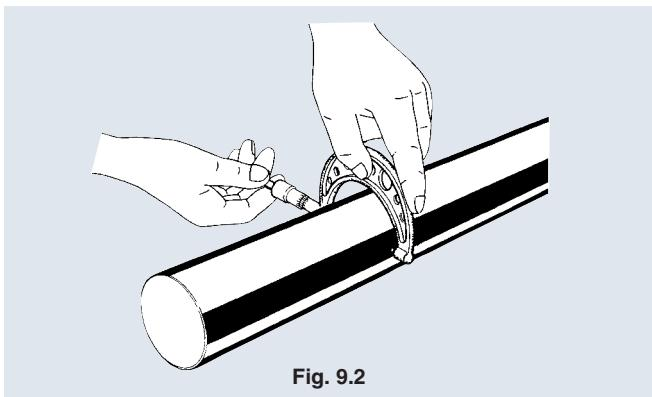

Fig. 9.2
- (2) Make sure that the shaft is free from bends or other damages and that it has been dimensioned and formed as specified. (**Fig. 9.2**)